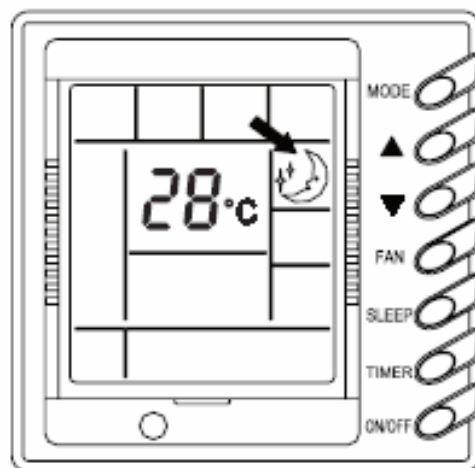

Fig. 19
1.3 Adjusting the Sleep Mode (Fig.19)